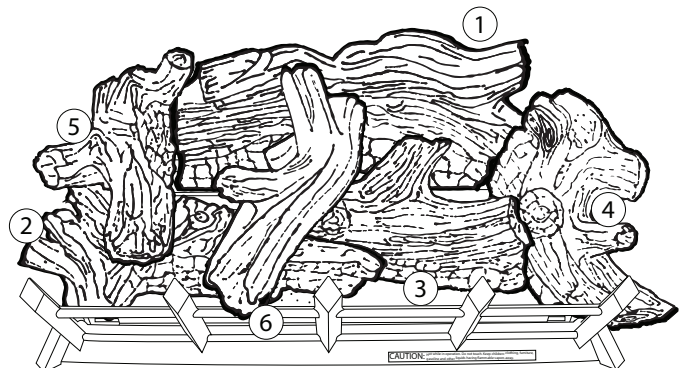

Figure 53.
6. Place the top center log (#6) to the right of the pilot orifice allowing the log to rest on top of the front right log (#3) and the front left log (#2). (See Figure 53.)